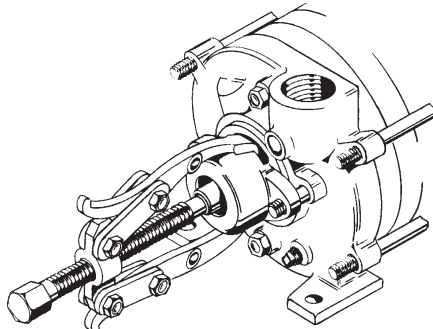

Figure 4-1
- The bearing arm (#3) may now be removed. A gear puller may be necessary. (refer to figure 4-1) The outboard ball bearing (#24) should now be removed. A gear puller will have to be used for this operation. If the bearing can be removed too easily, a worn bearing surface may be indicated. Replace the shaft and bearing as necessary before reassembly.